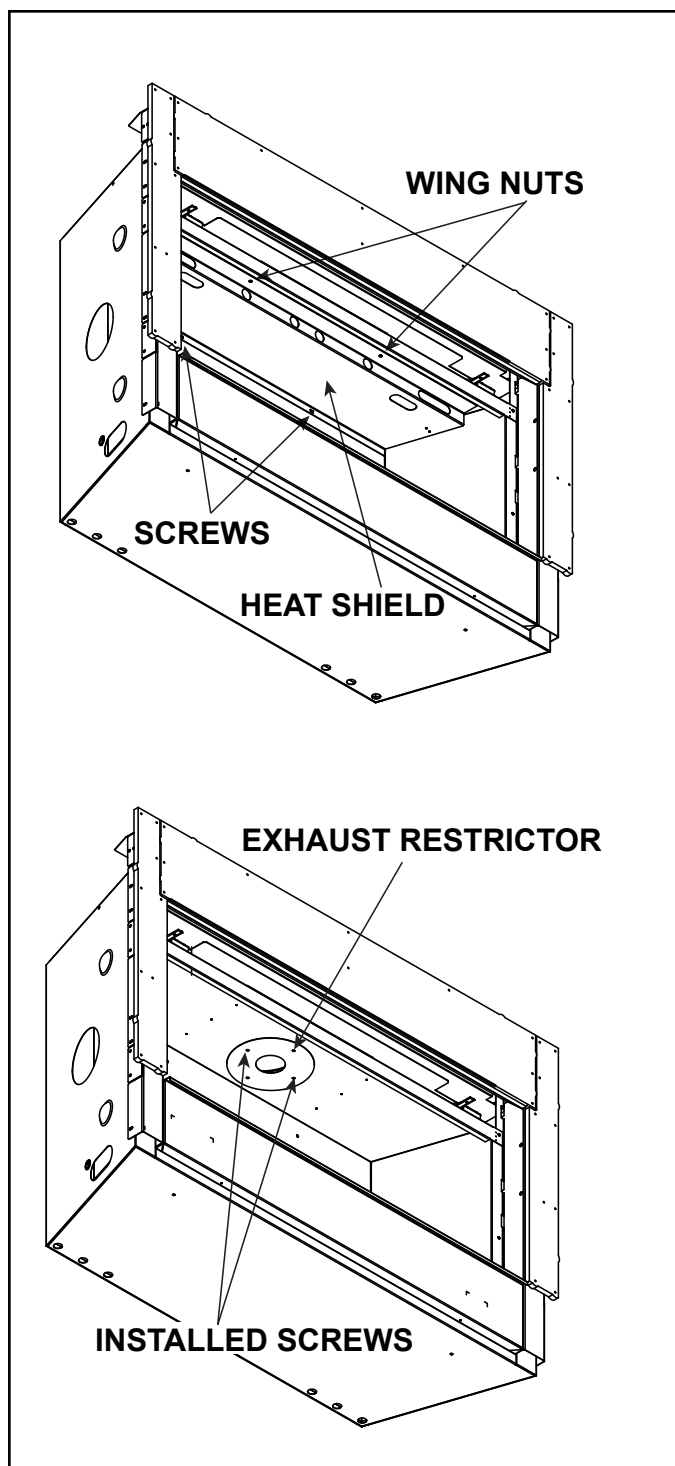

Figure 4.14
2. Center the exhaust restrictor in the open end of the exhaust outlet and secure through the slots on the exhaust restrictor with the two 1/4 in (6 mm). self-tapping screws provided in the appliance manual bag. See Figure 4.14.